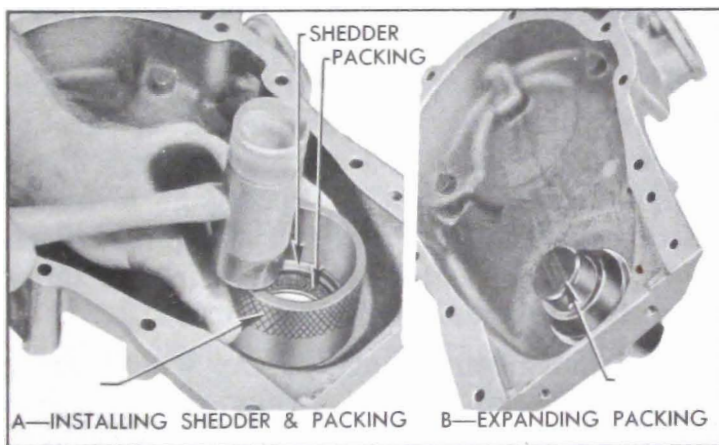

Figure 2-28—Installing Crankshaft Oil Seal
2. Work new packing into the shedder, then drive shedder into recess in timing chain cover, using Installer J 5250-1. See figure 2-28, view A.
3. Push Packing Expander J 5250-2 through the seal to expand the packing into place and size the opening for the crankshaft. See figure 2-28, view B. Apply a light coat of vaseline to the packing.